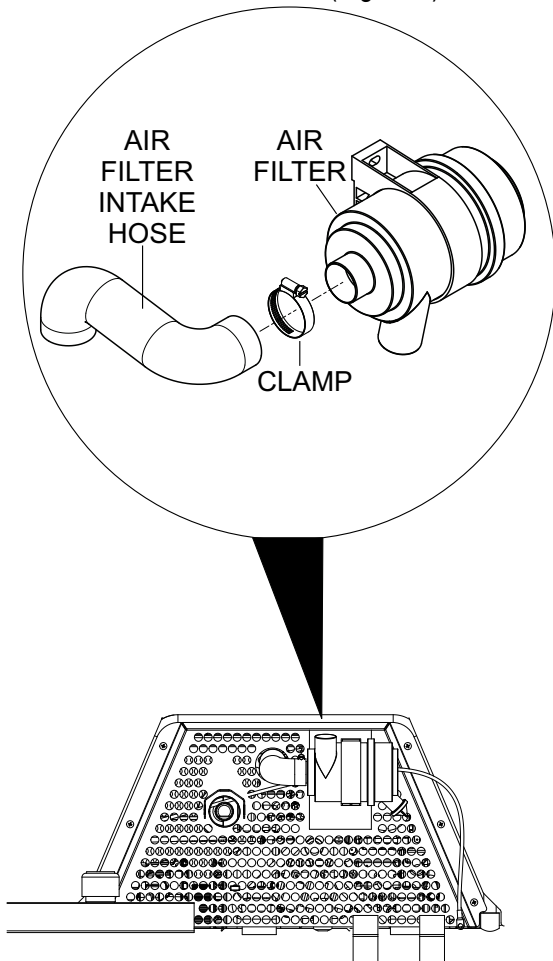

Figure 8. Remove Air Filter Intake Hose
3. Remove air filter intake hose (Figure 8), and set aside.